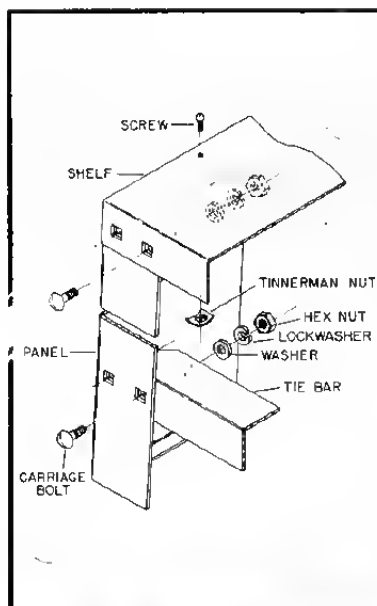

Fig. 3
1. Assemble the top shelf and the two braces to the two panels of the stand, as shown in Fig. 3, using the 16 carriage bolts, flat washers, lockwashers and nuts supplied.
2. Fasten the top shelf to the panels using the four screws and tinnerman nuts supplied, as shown in Fig. 3.